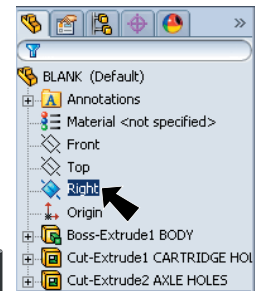

Fig. 20
Step 2. Click **Right**  (plane) in the Feature Manager to select Plane, **Fig. 20**.
Step 5. Click **Right**  (plane) in the Feature Manager to select Plane, **Fig. 20**.